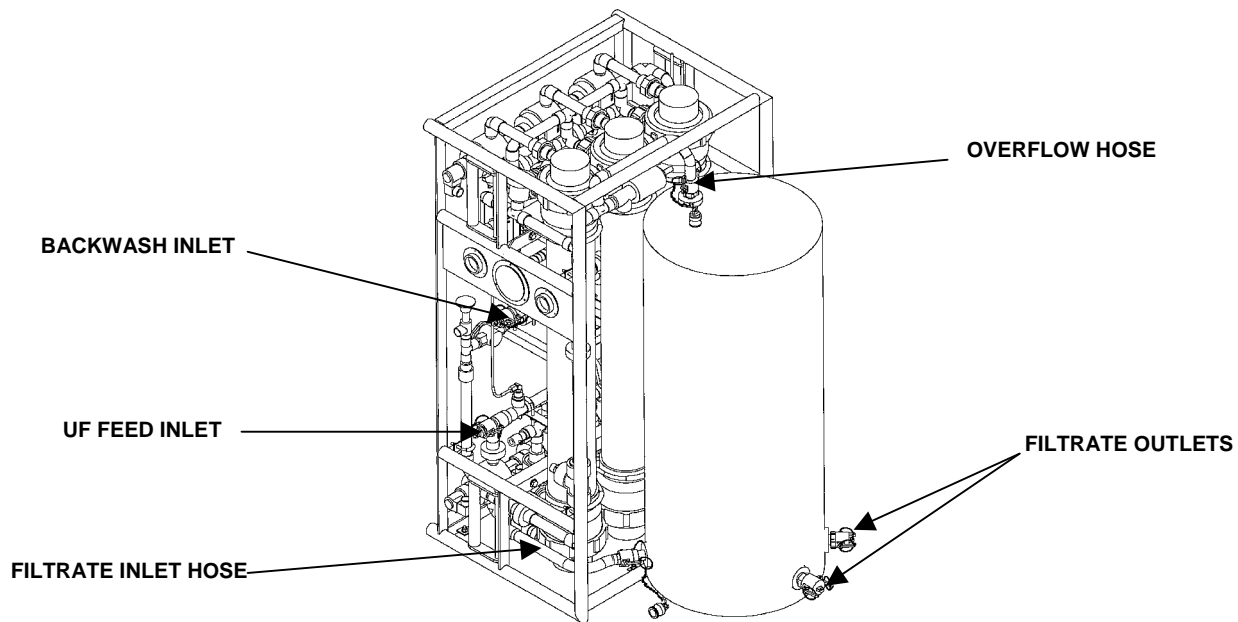

Figure 3. Inlet and Outlet Locations of the Filtrate Tank.
- b. Drain filtrate tank by disconnecting one inlet **and** two outlet hoses at the base of the filtrate tank. See Figure 3 for location.
- e. Cap the filtrate tank inlet hose. See Figure 3 for location.
- f. Disconnect filtrate tank overflow hose and plug. See Figure 3.